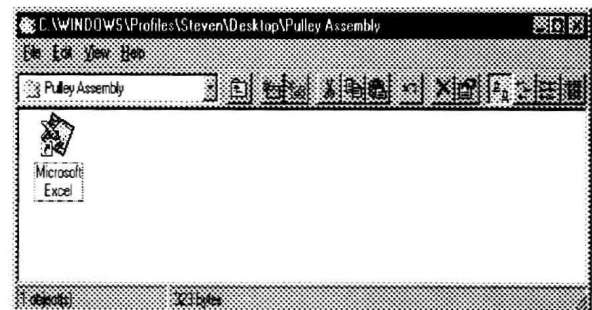

Figure 1.7 The project window with an application shortcut.
9. Select **E**dit **P**aste from the project file's window pulldown menu. The shortcut copied will appear in the project window as shown in figure 1.7. The application's shortcut icon has a curved arrow on the bottom left. This arrow indicates that a shortcut has been copied and not the actual file.